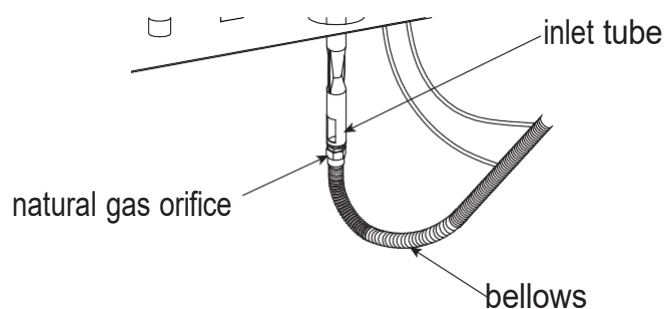

Figure 10
3. Replace the propane orifice with the natural gas orifice and screw the natural gas orifice to the bellows tightly. Then connect and tighten the natural gas orifice to the inlet tube (see Figure 10). The Natural gas orifice (4.18 mm diameter size) is painted with a black mark.